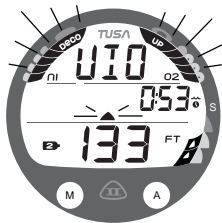

Fig. 65 - VGM MAIN
**VGM Main**, information includes (Fig. 65) -